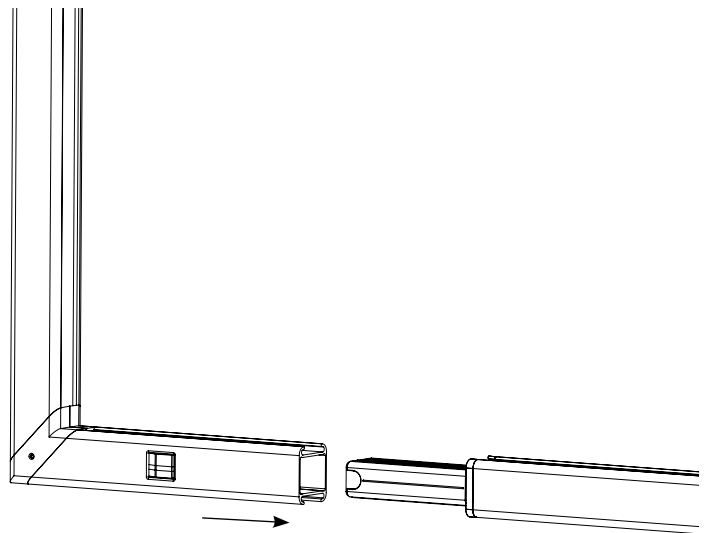

Figure 3
2. Assemble the frame by sliding both the top and bottom sections into a side section. Slide the sections together until the corner latches engage. Slide the remaining side section onto the top and bottom sections to complete the assembly. See Figure 3.